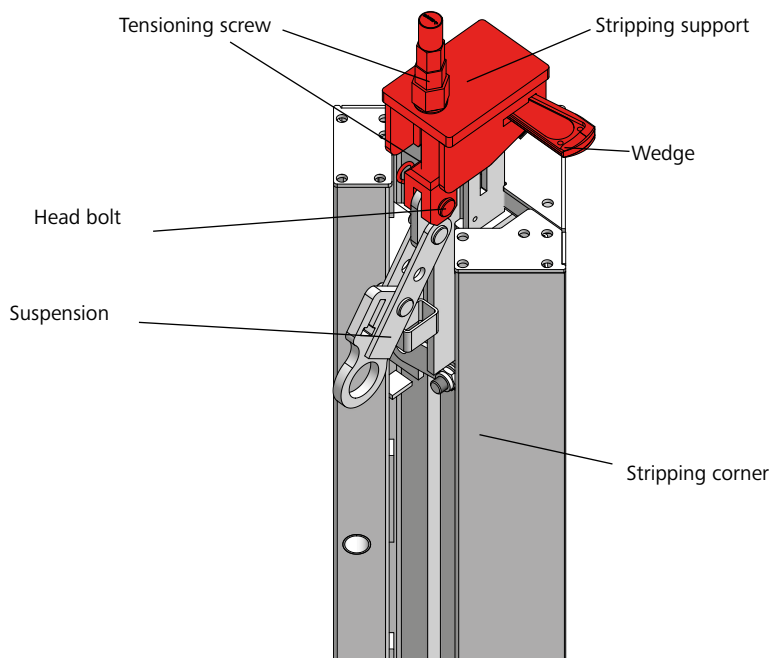

Fig. 32.2
1. Place the stripping support onto the connecting device at the top of the stripping corner. Make sure the suspension is inclined downwards (Fig. 32.2).
2. Connect the stripping support to the stripping corner with the head bolt 16/40 and cotter pin 4 that are both integrated into the tensioning screw of the stripping support (Fig. 32.2).
3. Lock the stripping support to the stripping corner by driving the stripping corner's wedge with a few hammer blows into the opening of the stripping support (Fig. 32.2).